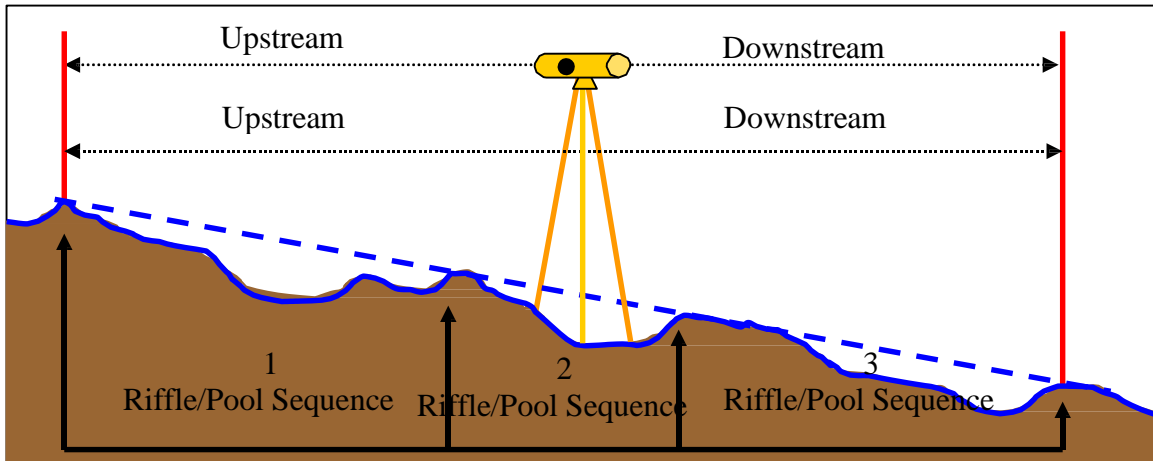

Figure 10 – Measuring slope
- **Note:** Ideally the distance between the two readings would include at least two riffle pool sequences (Figure 10). If this cannot be achieved from the location on the bank where the level is set to read the cross section (e.g. brush obscures line of sight, creek bends, etc.), wait until you've completed surveying the cross section then move the level to a location that allows a better view both up and downstream - this may be in the channel itself rather than on the banks (**Option 2**).
- Locate the furthest riffle upstream of the cross section that is within your line of sight. Measure, along the centerline of the bankfull channel*, the distance from the cross section to the beginning of that riffle (Figure 10). This is your **Upstream Distance** — record it on the data sheet.
person takes a reading of the stadia rod with the level (Figure 10). This is your **Upstream Reading** — record it on the data sheet.
- Similarly, locate the furthest riffle downstream of the cross section that is within your line of sight, and repeat the same steps to measure your **Downstream Distance** and **Downstream Reading** (Figure 10) — record those on the data sheet.